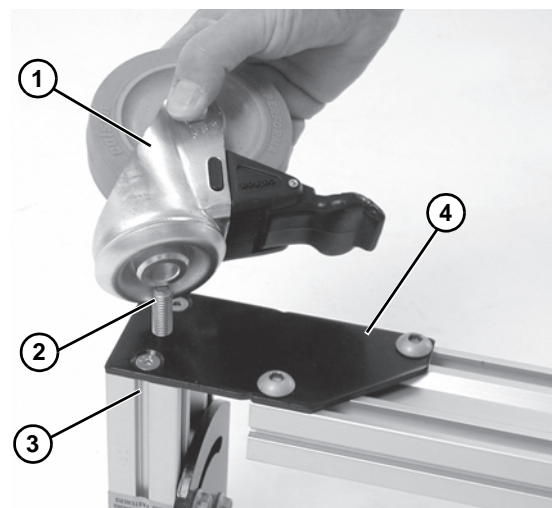

Figure 12
1. Install caster (**Figure 12, item 1**) over bolt (**Figure 12, item 2**). Bolt is already assembled in stand leg (**Figure 12, item 3**) and through the tie plate (**Figure 12, item 4**).